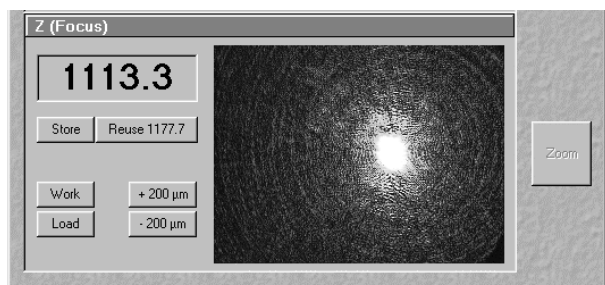

Fig. 3-37 Upper cover slip surface
- Having cautiously moved over a short distance, the cover slip reflection should look as shown in (Fig. 3-37). The upper cover slip surface has been found.